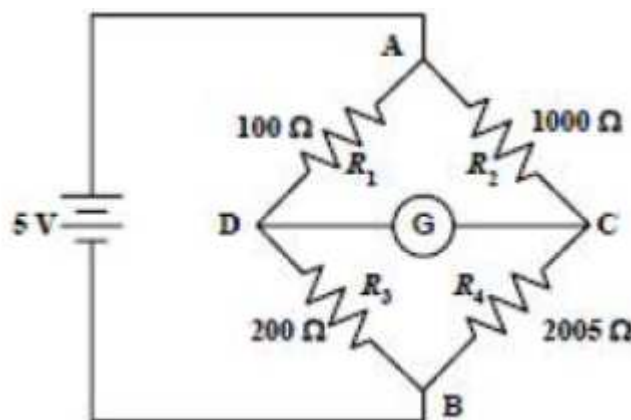

Fig. Q 4 (a)
- a. Fig. Q 4 (a) shows a bridge circuit with values of the circuit elements. The battery voltage is 5 V and the internal resistance is negligible. The galvanometer has a current sensitivity of 10 mm/ μ A and an internal resistance of 100 Ω . Calculate the deflection of the galvanometer caused by the 5 Ω unbalance in arm BC. [4 marks]